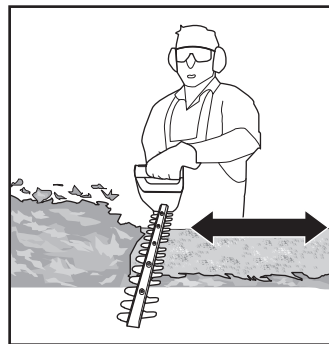

Fig. 8
8. Cut in a number of stages to achieve a better result rather than trying to cut in one go if the area being cut is particularly long (Fig. 8); smaller cuttings will allow for easy composting.